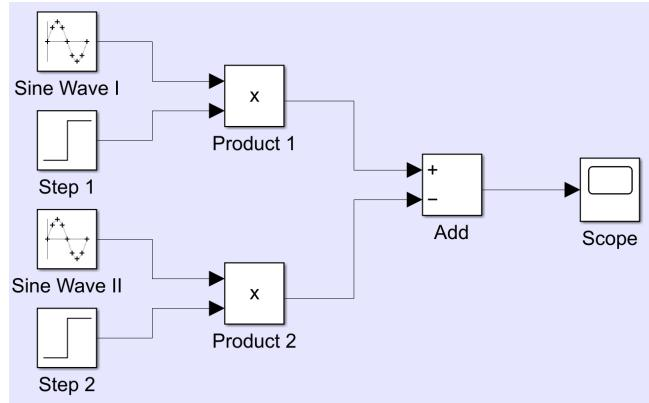

Fig. 11: Sum of signals
- 6) To observe the output on the Scope of sum of signals, we connected the blocks as shown in Fig. 11. We set up the parameters as listed in the following: